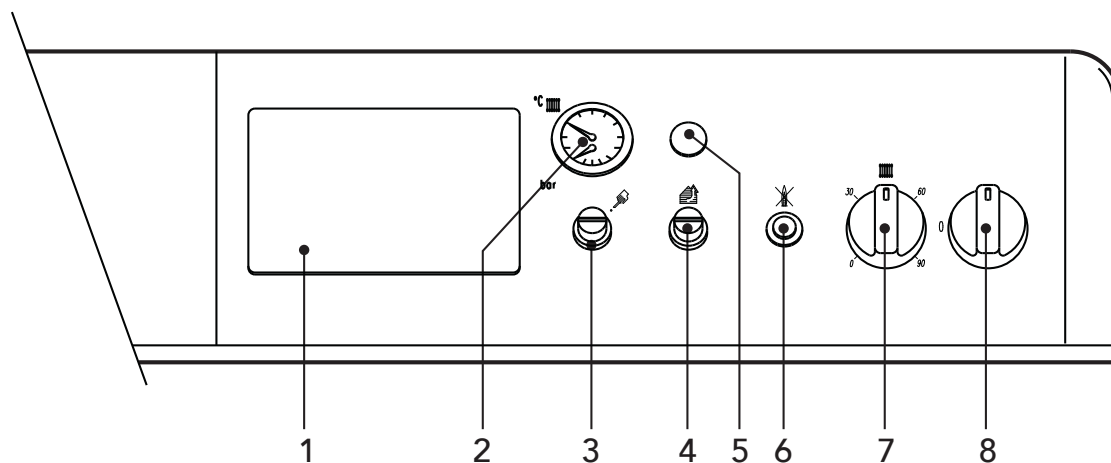

fig. 1
- Turn the boiler switch "8" onto 1 (Fig. 1).
- If the boiler is equipped with an electronic thermostatic controller mounted at position 1 of Fig. 1, the user must also take into account the manufacturer's instructions.
Turn knob "7" (Fig. 1) clockwise to increase the heating water temperature, turn anticlockwise to decrease it. The temperature can be varied from a minimum of 30°C to a maximum of 90°C. However, it is advisable not to operate the boiler below 45°C.
Using the room thermostat, set the temperature desired in the rooms. Controlled by the room thermostat, the boiler lights and delivers water to the system at the temperature set by boiler adjustment thermostat "7" (Fig. 1). The generator turns off when the desired temperature in the rooms is reached.
The filling pressure with system cold, read on boiler hydrometer (detail 2 in Fig.1), must be about 1.0 bar. If, during operation, the system pressure falls (caused by the evaporation of gas dissolved in the water) to values below the minimum described above, the user must bring it back to the initial value by operating the filling cock. At the end of the operation always close the filling cock.